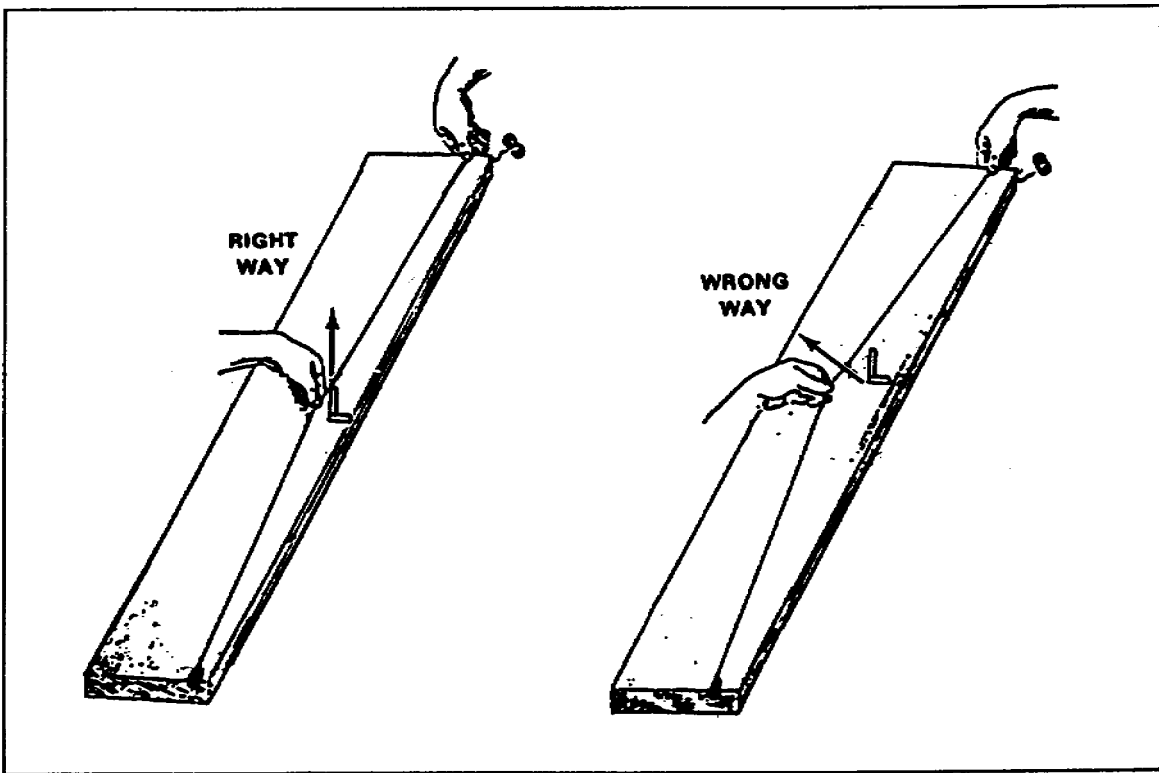

Figure 2-42. Snapping a chalk line
c. Chalk Line. This is a strong, lightweight cord used to make a straight line between two widely separated points. To snap a straight line, rub chalk on a cord held taut between two points. Then pull the cord straight up from the center and release it, to allow it to spring back into place. Chalk lines come in metal or plastic cases. Figure 2-42 shows how to snap a chalk line.